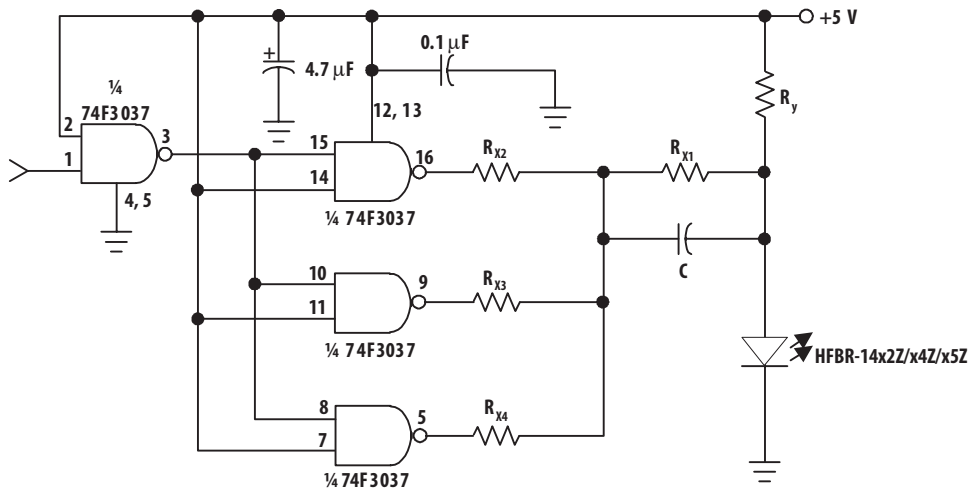

Figure 11. Recommended Drive Circuit
| Rise Time, Fall Time(10% to 90%) | t r , t f |      | 4.0      | 6.5  | ns    | I F = 60 mANo pre-biasFigure 11 | Note 7    |
- Pre-bias is recommended if signal rate > 10 MBd, see recommended drive circuit in Figure 11.
The circuit used to supply current to the LED transmitter can significantly influence the optical switching characteristics of the LED. The optical rise/fall times and propagation delays can be improved by using the appropriate circuit techniques. The LED drive circuit shown in Figure 11 uses frequency compensation to reduce the typical rise/fall times of the LED and a small pre-bias voltage to minimize propagation delay differences that cause pulse-